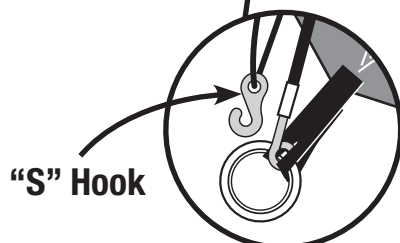

Fig. 9
- Connect the elastic loops with "S" hooks, (found at the rainfly corners) to the rings found at the tent corners. (Fig. 9)